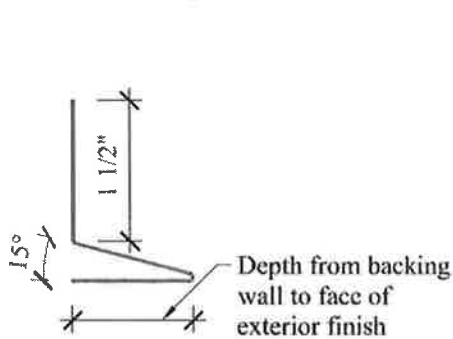

Fig. 3
- Step 2 Fabricate Straight Edge sections, Couplers, and End Dams from material defined in the construction documents and as illustrated in Figs. 3 through 6 with: